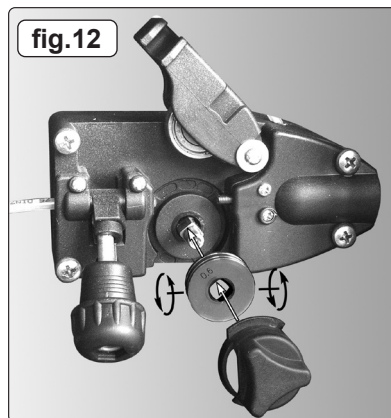

fig.12
6.5.2. Pull the roller off the drive spindle, flip it over and put it back on the drive spindle. (See fig 12) The groove size you require should now be visible on the face of the roller. Push the roller retainer back onto the drive spindle with the opening facing left. Ensure that the flanges at the base of the retainer, seat fully into the circular recess in the main moulding and then rotate the retainer through 90° to lock it in place.